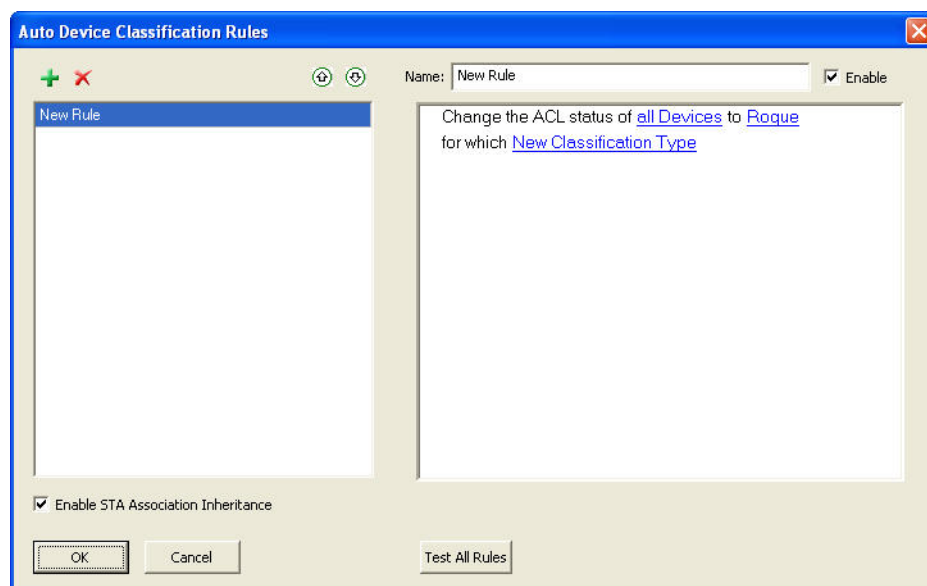

Figure 13-29: Device Classification Settings
- 2) Click Device Classification Rules to open up the Auto Device Classification Rules dialog box. See Figure 13-29.